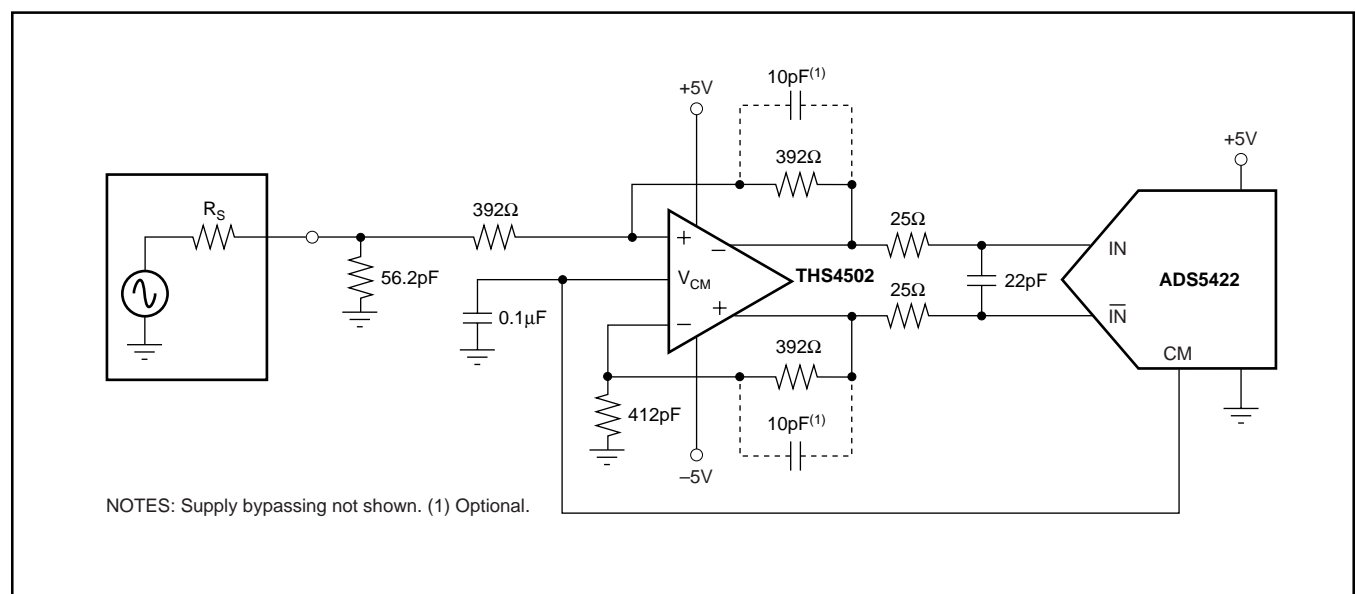

FIGURE 3. Using the THS4502 Differential Amplifier (Gain = 1) to Drive the ADS5422 in a DC-Coupled Configuration.
The following section provides some principal circuit suggestions on how to interface the analog input signal to the ADS5421. Applications that have a requirement for DC-coupling a new differential amplifier, such as the THS4502, can be used to drive the ADS5421, as shown in Figure 3. The THS4502 amplifier allows a single-ended to differential conversion to be performed easily, which reduces component cost. In addition, the  $V_{CM}$  pin on the THS4502 can be directly tied to the common-mode pin (CM) of the ADS5421 in order to set up the necessary bias voltage for the converter inputs. As shown in Figure 3, the THS4502 is configured for unity gain. If required, higher gain can easily be configured, and a low-pass filter can be created by adding small capacitors (e.g., 10pF) in parallel to the feedback resistors. Due to the THS4502 driving a capacitive load, small series resistors in the output ensure stable operation. Further details of this and other functions of the THS4502 may be found in its product